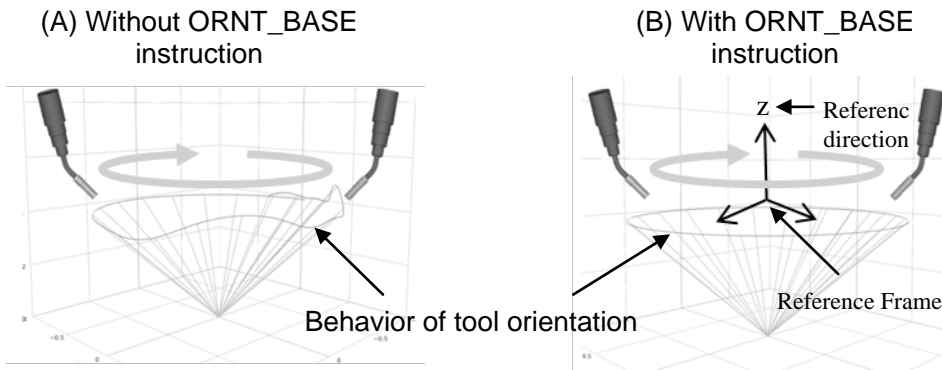

Fig. 4.3.5(i) Behavior of tool orientation, with and without ORNT_BASE instruction.
ORNT_BASE instruction is used to specify the reference direction of orientation for circular-motion. The reference direction is defined by “Reference frame” and “Direction (x, y or z)”. Example of reference direction is shown in “(B) With ORNT_BASE instruction” in Fig. 4.3.5(i).